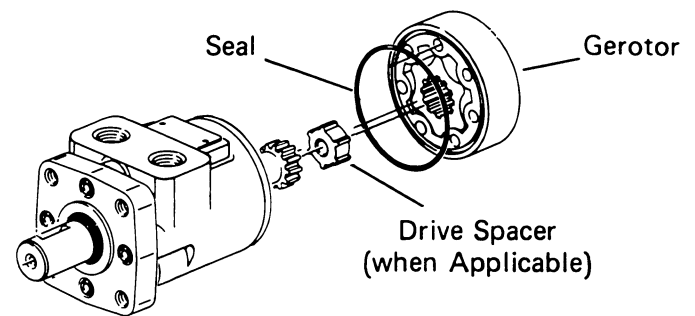

Figure 3
- 6 Remove seal from gerotor (Figure 3).